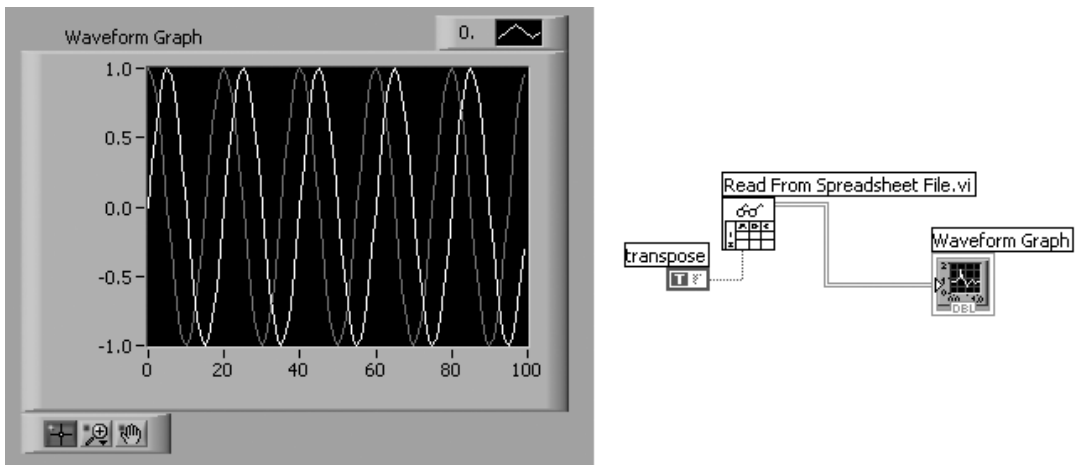

Figure 9.37
2. Create the little block diagram shown in Figure 9.37. Use the **Read From Spreadsheet File** function to bring in data and display it on the graph.